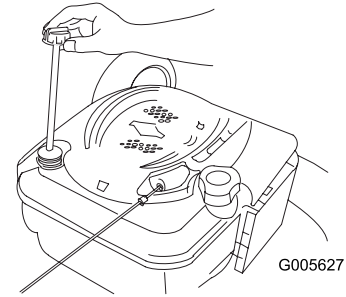

Figure 33
4. **Slowly** pour oil into the oil fill tube until the oil level reaches the Full line on the dipstick (Figure 33). **Do not overfill.** (Max. fill: 0.59 l, type: SAE 30W detergent oil with an API service classification of SF, SG, SH, SJ, SL, or higher.)